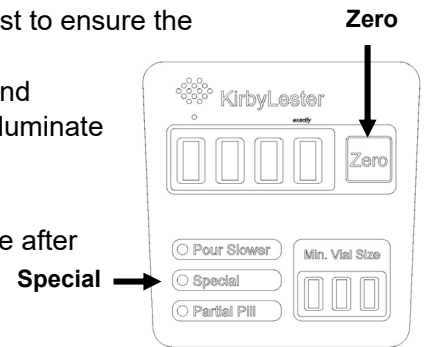

Fig. 8
- To enter Special Mode, press and hold the **Zero** button (Fig. 8) and release after the single beep. The green Special mode light will illuminate (Fig. 8).